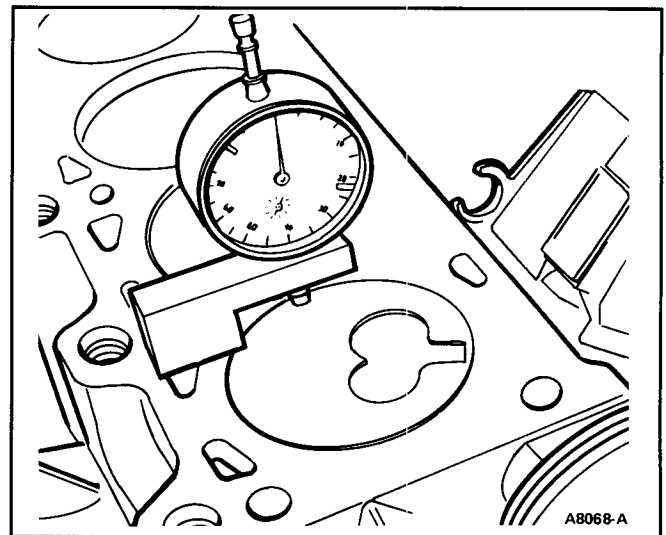

FIG. 27 Mounting Dial Indicator
- a. Mount dial indicator and bracket as shown in Fig. 27 with dial indicator tip on piston.